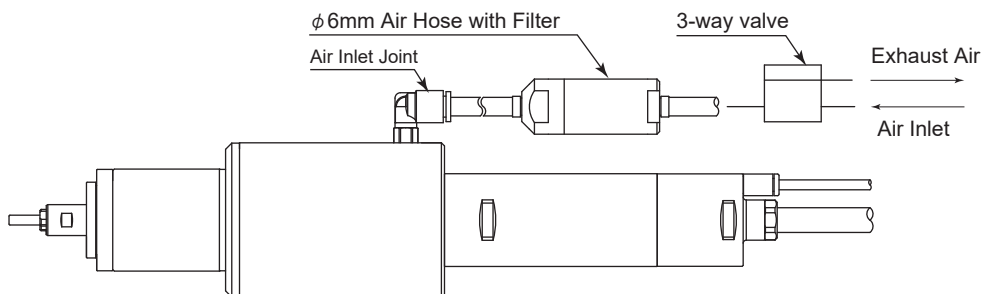

Fig. 3
- ① Connect the provided $\phi 6\text{mm}$ Air Hose with Filter and 3-way valve to Air Inlet Joint shown in Fig. 3.
- ② Supply clean air from air compressor through air filter or air dryer to the 3-way valve at the set air pressure : from 0.55 - 0.6MPa (79.8 - 87.0psi).